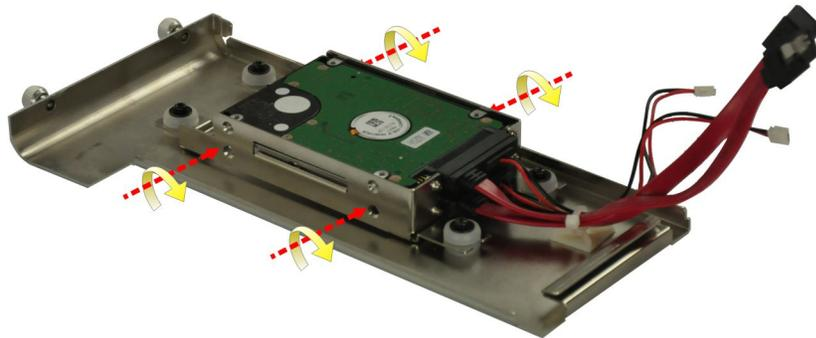

Figure 3-4: HDD Retention Screws
Step 4: Secure the HDD with the HDD bracket by four retention screws (**Figure 3-4**).